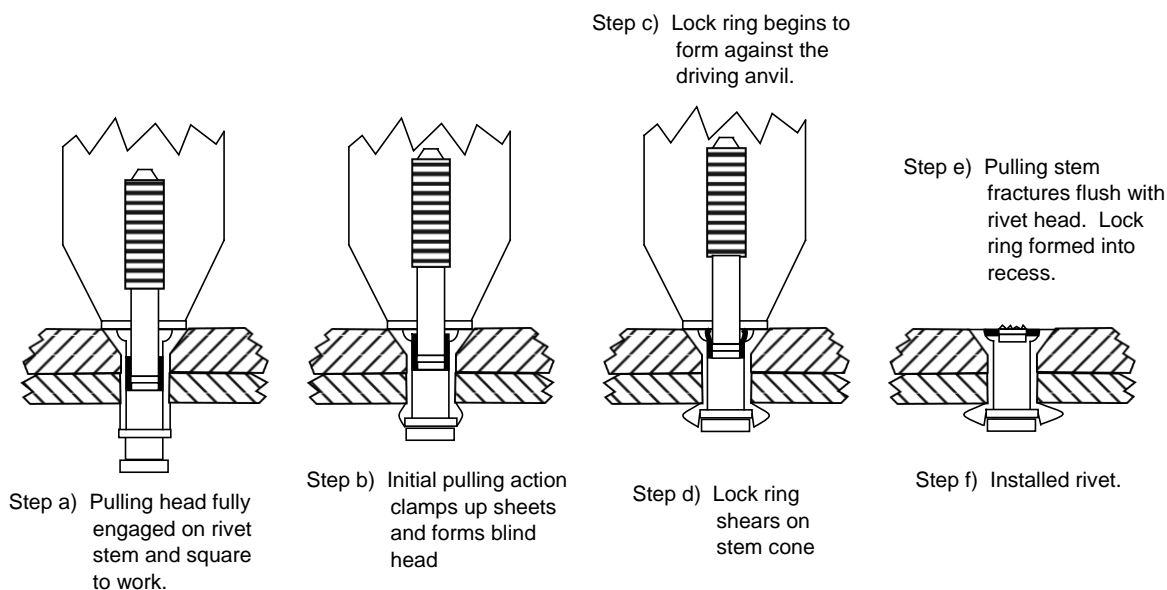

Figure 9. Typical Riveting Operation
5.6.1 Install blind rivets as follows (see Figure 9):